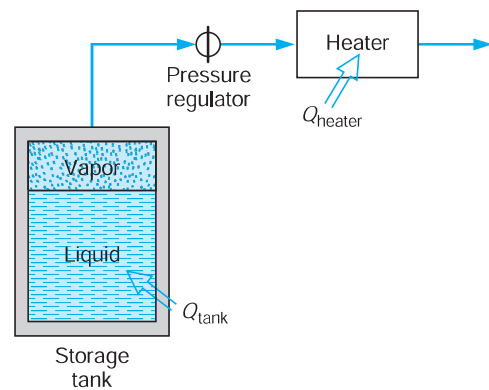

FIGURE P6.141
- 6.141** A 2-m³ storage tank contains 95% liquid and 5% vapor by volume of liquified natural gas (LNG) at 160 K, as shown in Fig. P6.141. It may be assumed that LNG has the same properties as pure methane. Heat is transferred to the tank and saturated vapor at 160 K flows into the steady flow heater, which it